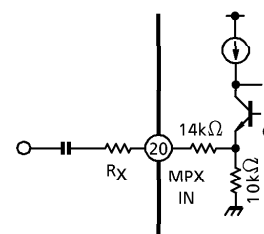

Fig.2 Internal circuit of MPX IN terminal
This IC can attenuate only FM stereo main signal level. Because MPX input for main signal (pin⑳) is independent of that for pilot signal (pin㉑), this terminal is shared with AM input). Internal circuit of MPX IN terminal (pin㉑) is shown in Fig.2. FM stereo main signal level can be attenuated by connecting an external resistor R_X . Because FM stereo main signal level is attenuated by internal resistor ($14k\Omega$ and $10k\Omega$) and resistor R_X . And it is applied to an emitter of transistor Q.